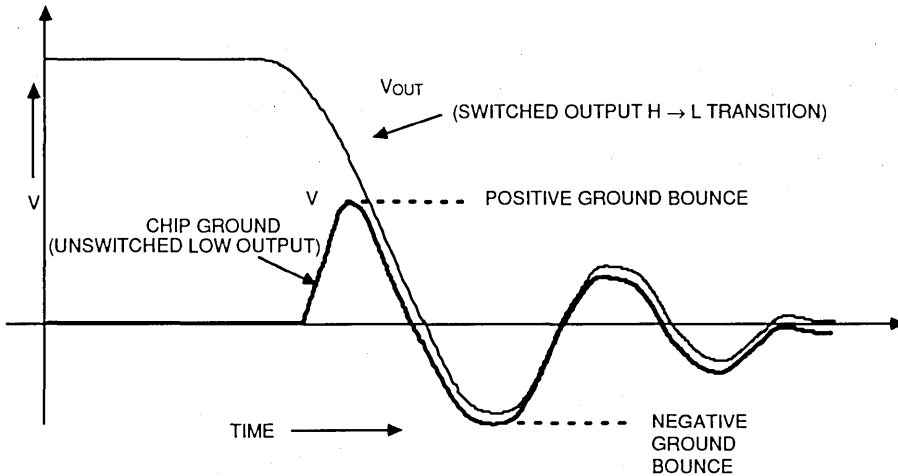

Figure 2. Ground Bounce Waveform
logic HIGH to LOW. Figure 2 shows a typical output voltage transition and the corresponding ground bounce as observed at the unswitched LOW output.
4. The most serious effect of ground bounce is associated with the loss of dynamic noise margin which results in the loss of stored data in latches and registers. This loss of noise margin is often caused by the negative ground bounce which follows the high to low transition of several simultaneously switching outputs (see Figure 2). Simply stated, the undershoots on the chip ground lower the input threshold, or trip point, of the device. This has the same effect as an input making a LOW to HIGH transition relative to the chip ground. If the undershoot is large enough to bring the input threshold near the logic LOW level of any of the inputs held LOW (with reference to the external ground plane), all dynamic noise immunity in the input stage of the device is destroyed. The apparent LOW to HIGH transition of clock (or latch enable) and any logic "LOW" data inputs of registers (or latches) will have the effect of losing stored "LOW" data which is now replaced by "HIGH" data.